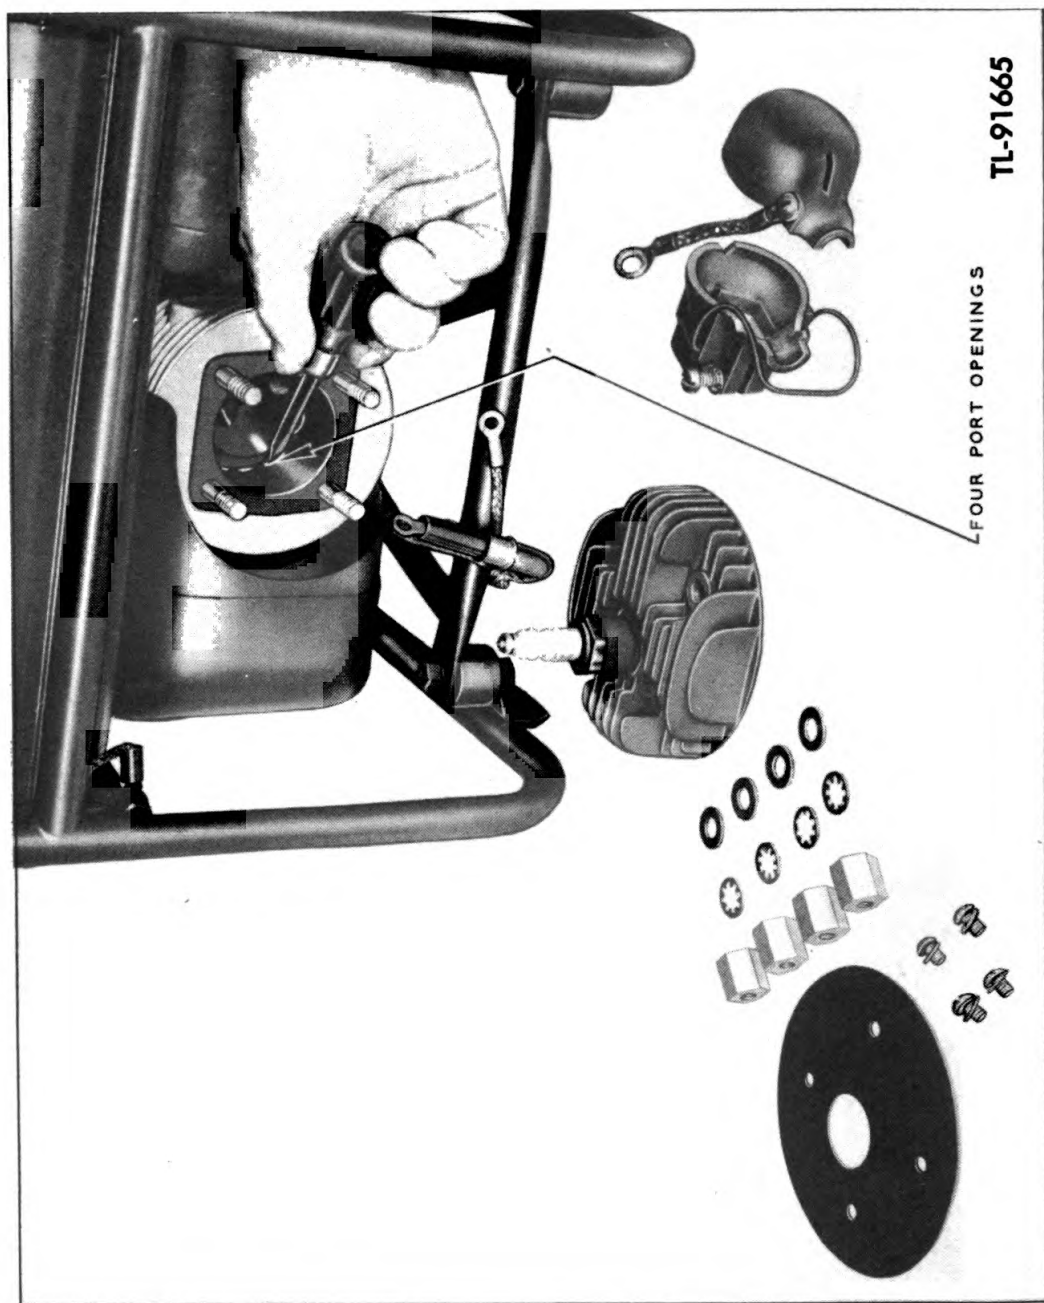

Fig. 16—Carbon Removal — Intake Ports
(2) **Intake ports.** Access to the intake port holes (fig. 16) for cleaning is attained by removing the spark plug shield, spark plug, cylinder head baffle and cylinder head. Turn the engine over until the piston is on bottom dead center. The openings can then be cleaned out, using the same tool as for exhaust ports. Be sure no chips remain in the cylinder, as they will foul up the spark plug in starting. To facilitate reaching the intake port openings, remove the muffler.
(3) Disassemble and clean the muffler every 250 operating hours.
13. LUBRICATION. Power Unit PE-214-B requires no lubrication other than the oil mixed with gasoline for the engine (par. 5. b.) and occasional lubrication of the magneto cam (466) with grease. Do not use a fluid lubricant.